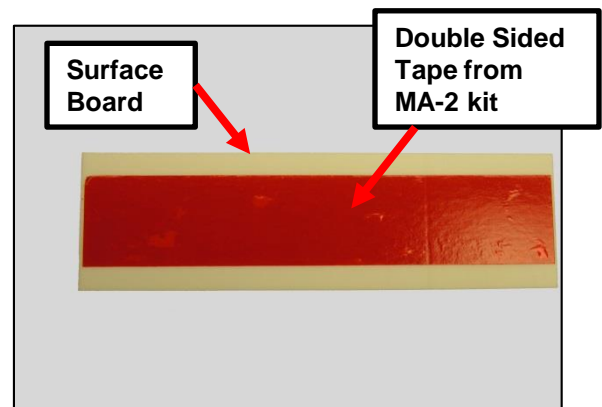

Figure 1
5.1 Remove double sided tape from protective layer and place on top of the surface board. Overlap the tape on one end approximately 1/2". Remove second protective layer on double sided tape exposing the adhesive. (see Fig. 1)